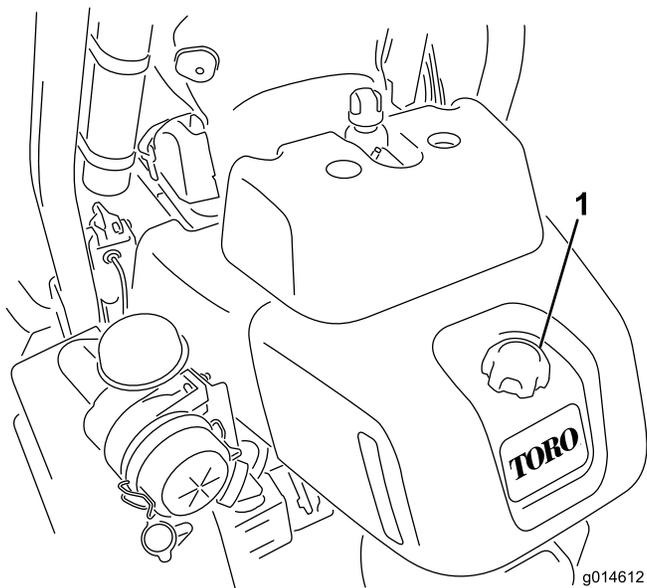

Figure 28
1. Clean around the fuel tank cap (Figure 28).